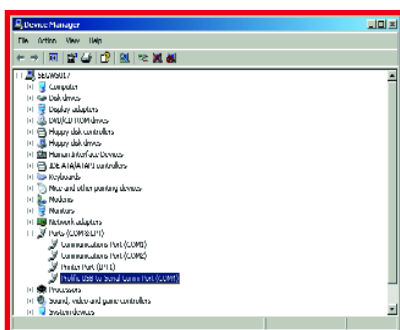

**Figure 2.** Block diagram of the Prolific interface converter.
**Figure 2** shows the internal structure of the IC, which consists of a USB transceiver, a serial interface, and two data buffers. The data buffers support fast, uninterrupted data transfers, with data blocks being packed into individual USB frames. It is also possible to connect an I2C EEPROM to store user configuration settings, but that option isn't used here.